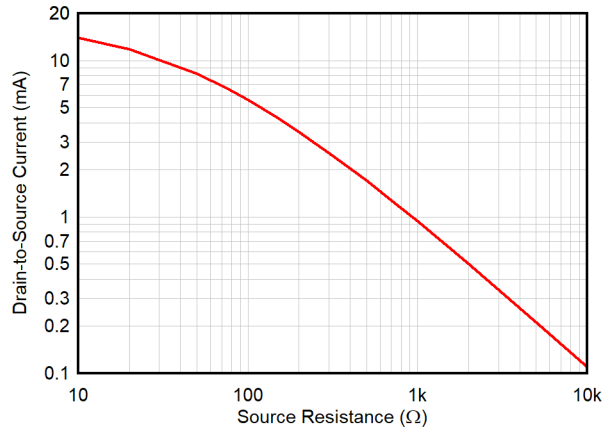

图 9-4. Drain-to-Source Current vs R_S , $V_{DS} = 5\text{ V}$
performance. The JFE2140, however, delivers significantly lower noise performance than most operational amplifiers at the same current consumption. The bias current (I_{DS}) is set by the value of the source resistor, R_S , and the threshold voltage, V_T , of the JFE2140. For JFETs, this threshold voltage is equivalent to the gate-to-source cutoff voltage, V_{GSC} . A graph showing nominal I_{DS} vs R_S is shown in 图 9-4.
R _{S2}	Bias-current setting resistor. This resistor, along with R _{S1} , determine the bias current when using resistive biasing (see 图 9-4). Be aware that both R _{S1} and R _{S2} resistance directly impact noise performance.
- The bias current is set by selecting the desired bias current and noise tradeoff (see 图 6-16). To set the bias current point, adjust the source resistance according to 图 9-4.